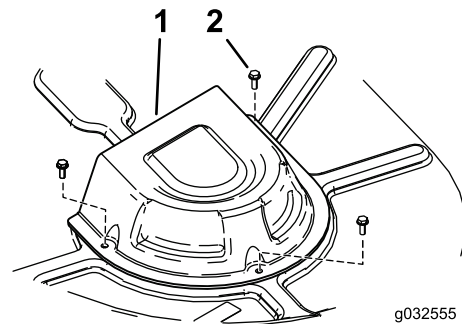

Figure 60
4. Remove the pulley covers (Figure 60).
8. Install the pulley covers (Figure 60).